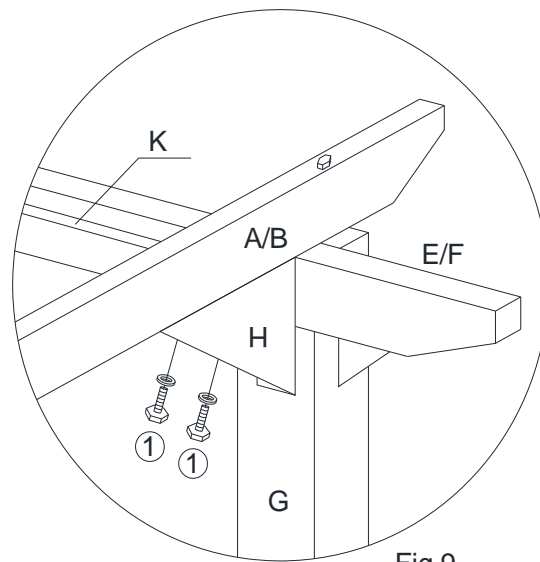

Fig.9
Attach Braces(H) to Outer Crossbars(A/B) using Bolts(①) with Wrench(⑤). (See Fig. 9)